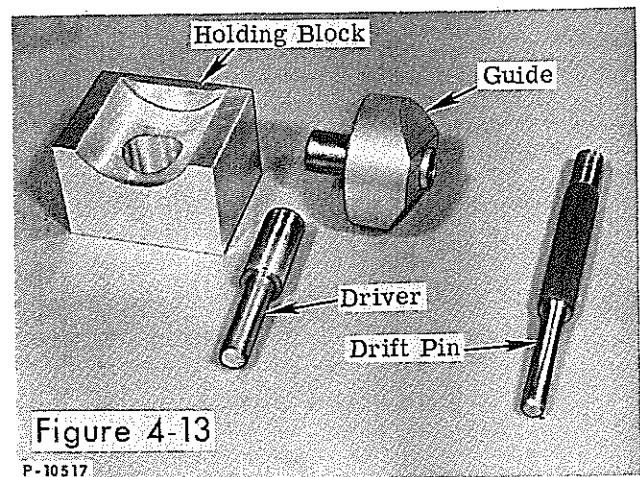

Figure 4-13
- a. Use Piston Assembly Tool Kit, P/N 68915 and a 1/4-inch drift pin (Figure 4-13) with an arbor press or vise. Do not use a hammer as the parts in the tool kit will be damaged.